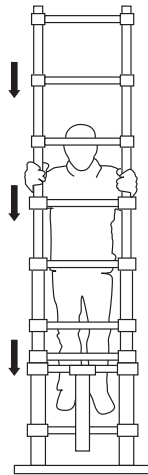

Fig. 6
2. Hold the ladder vertically as shown in Fig. 6. Make sure that you are on a flat, firm surface.